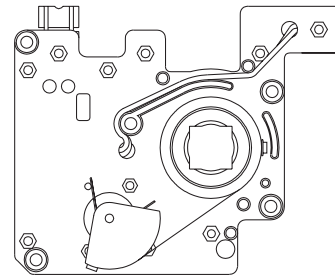

FIGURE 3. Bottom View of Carrier Plate Assembly Showing Shaft and Potentiometer in Mid Travel, Ready to be Fitted to Actuator in Mid Travel.
2.1.5 Observe the range of motion available to the positioner shaft, limited by the correct running of the potentiometer quadrant wheel, driven by the stainless steel strap (see Figure 3). Fit the carrier plate/shaft assembly back into the positioner box with the shaft near mid-range, "feeling" the female square in the positioner shaft onto the male actuator square while maintaining its position near mid range. It is essential that the two shafts are correctly oriented relative to each other, since if they are 90 degrees out, the quadrant wheel can be forced too far and damage done to the drive mechanism during subsequent actuator movements. It is possible to fit the positioner correctly with the actuator square at one end of its travel, but experience indicates a high probability of mistaking the direction of movement of the actuator - hence it is strongly advised that the positioner be fitted with the actuator square at the mid-travel position, where there is no ambiguity possible.